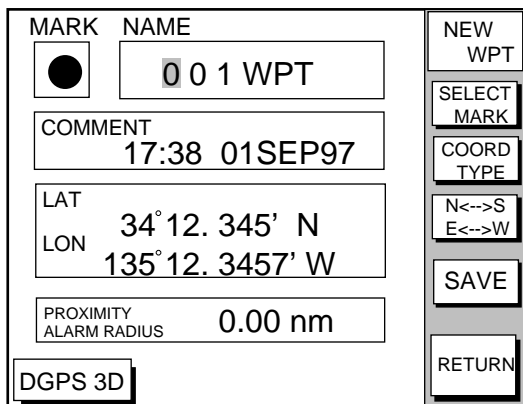

Figure 6-5 Waypoint window
5. Press the soft key NEW WPT. The screen should look something like the one shown in Figure 6-5.